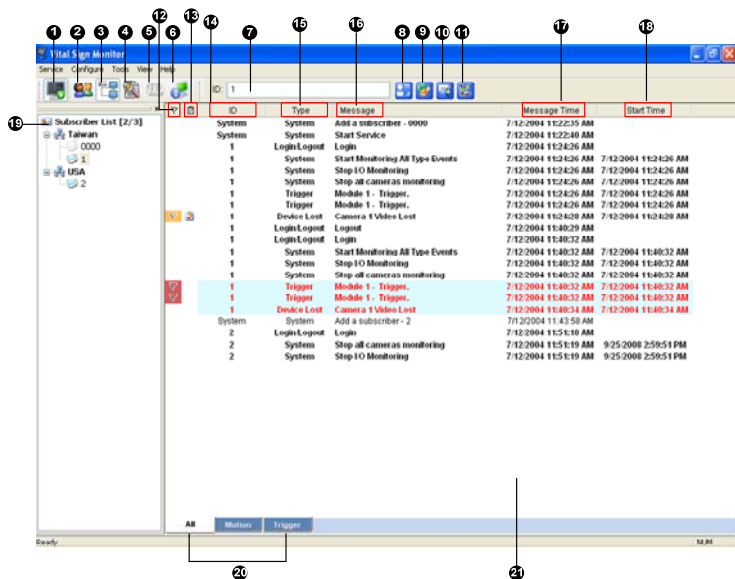

Figure 3-1
1. On the VSM window, click the **Account** button (No. 2, Figure 3-1) to display the Address Book window.
After subscriber accounts are created, the VSM is ready to provide services. Clicking the **Start/Stop Service** button (No. 1, Figure 3-1) on the VSM window to receive signals from subscribers.